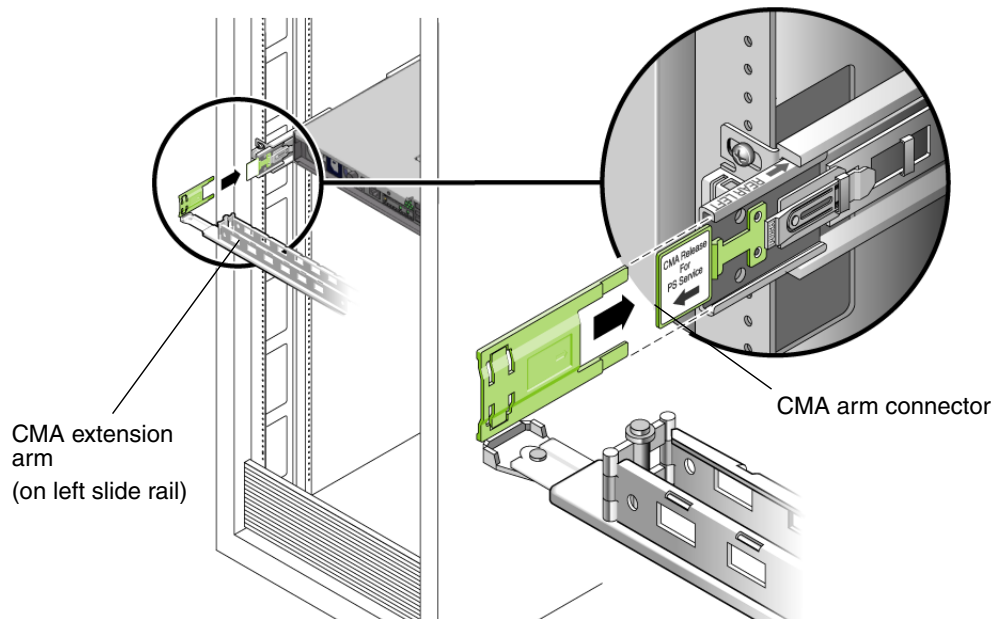

FIGURE C-11 Connecting the CMA Arm to Rail Extension Connector
7. Insert the left CMA slide-rail connector into the rail extension on the left slide-rail assembly until the connector locks into place with an audible click. (See FIGURE C-11.)